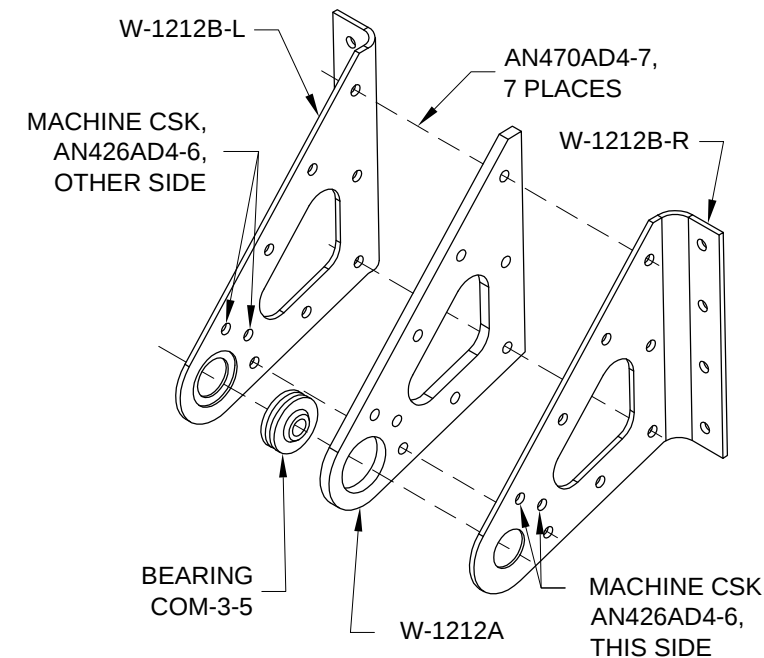

FIGURE 5:
Step 7: Machine countersink the W-1212B-L & -R Flaperon Hinge Brackets per callouts in Figure 5.
Step 8: Press one BEARING COM-3-5 into each of the W-1212A Flaperon Hinge Plates as shown in Figure 5. Use a 7/16 inch, 3/8 inch drive socket to push on the bearing and a 9/16 inch, 3/8 inch drive socket to back up the flaperon hinge plate. Squeeze with a vise or c-clamp.
Step 10: Rivet the W-1212A Flaperon Hinge Plates and the W-1212B-L & -R Flaperon Hinges together using the rivets called out in Figure 5. Set the rivets in a random pattern to prevent warping in the final assemblies. Refer to each of these assemblies as the W-1212 Hinge Assembly. Set both W-1212 Hinge Assemblies aside until later in this section.